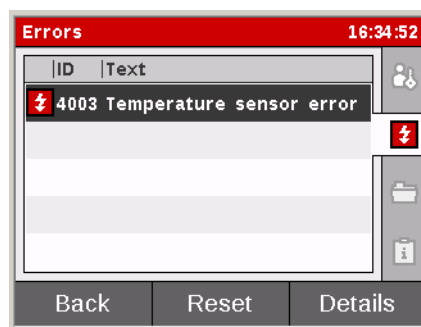

Fig. 29: Errors screen
According to the recommendations of NAMUR NE 107, deviations from normal sensor operation are classified as "out of specification" (Warning) and "failure" (Error). The sensor state is indicated by the symbol on the quick access menu bar (see table 5-1 and Fig. 29).
2. Press <Errors> to open the Error screen (Fig. 29).